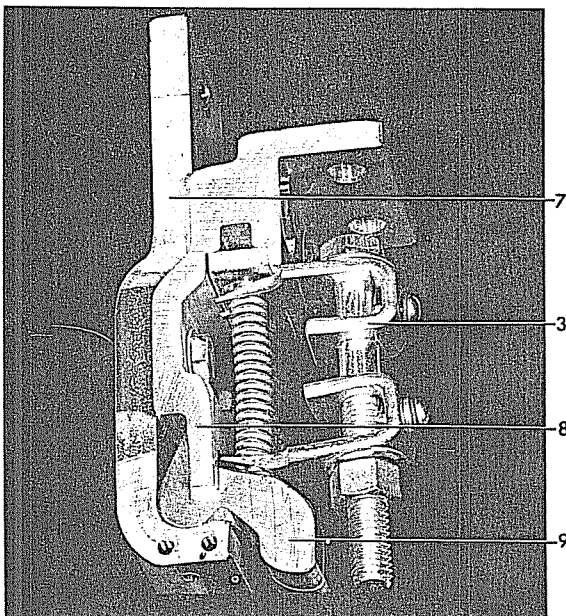

Figure 22C (8034469)
4. Place washer (not shown) on guide on top of spring, place top of guide into hole in spring retainer (4) and the round end of spring guide in cutout in primary finger (Figure 22C).